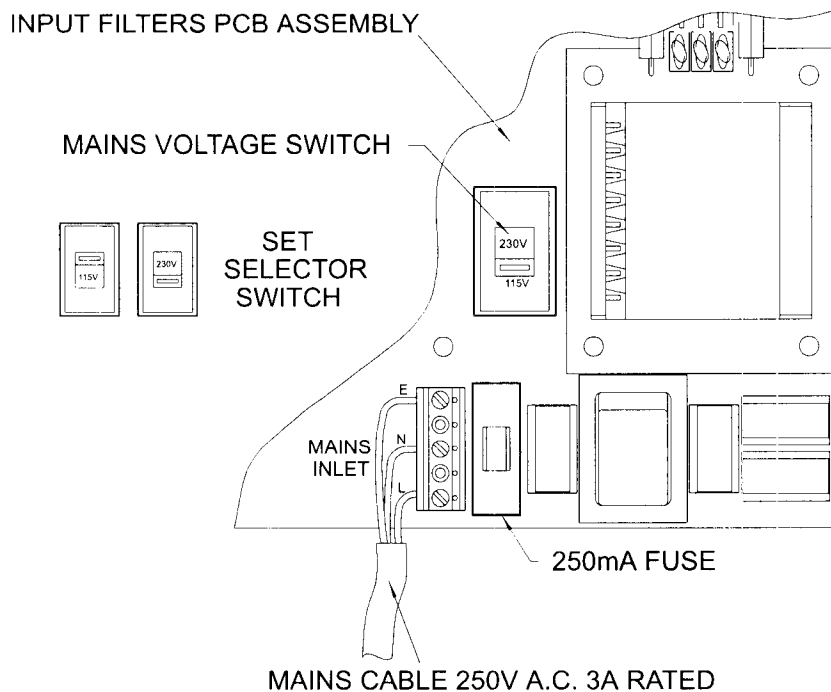

Figure 3.4 : Power Supply Connections
3. Prepare the end of the cable and make connections to the mains inlet terminal block at the bottom right-hand corner of the input filters PCB. See figure 3.4.